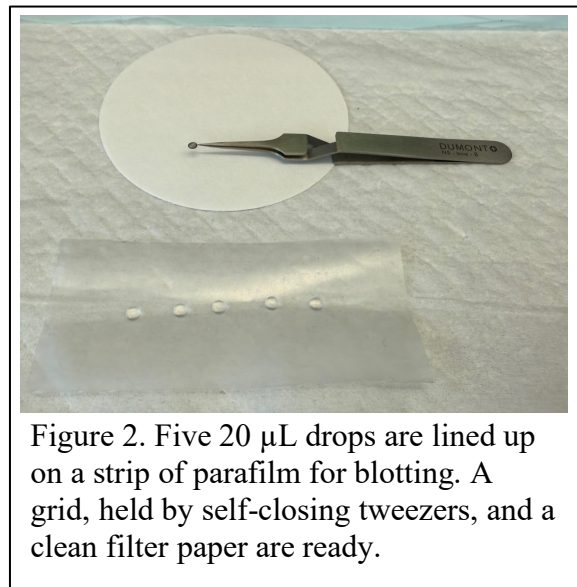

Figure 2. Five 20 μL drops are lined up on a strip of parafilm for blotting. A grid, held by self-closing tweezers, and a clean filter paper are ready.
- 3.4.1. Pipette 2 drops of distilled water and 3 drops of stain on a strip of parafilm. Drops of ~5-20 μL are recommended (Figure 2). Buffer can be used in place of water for sensitive samples, but water is recommended and generally leads to better stain quality.
- 3.4.2. Pick up a grid with self-closing tweezers, carbon side facing up (Figure 2).